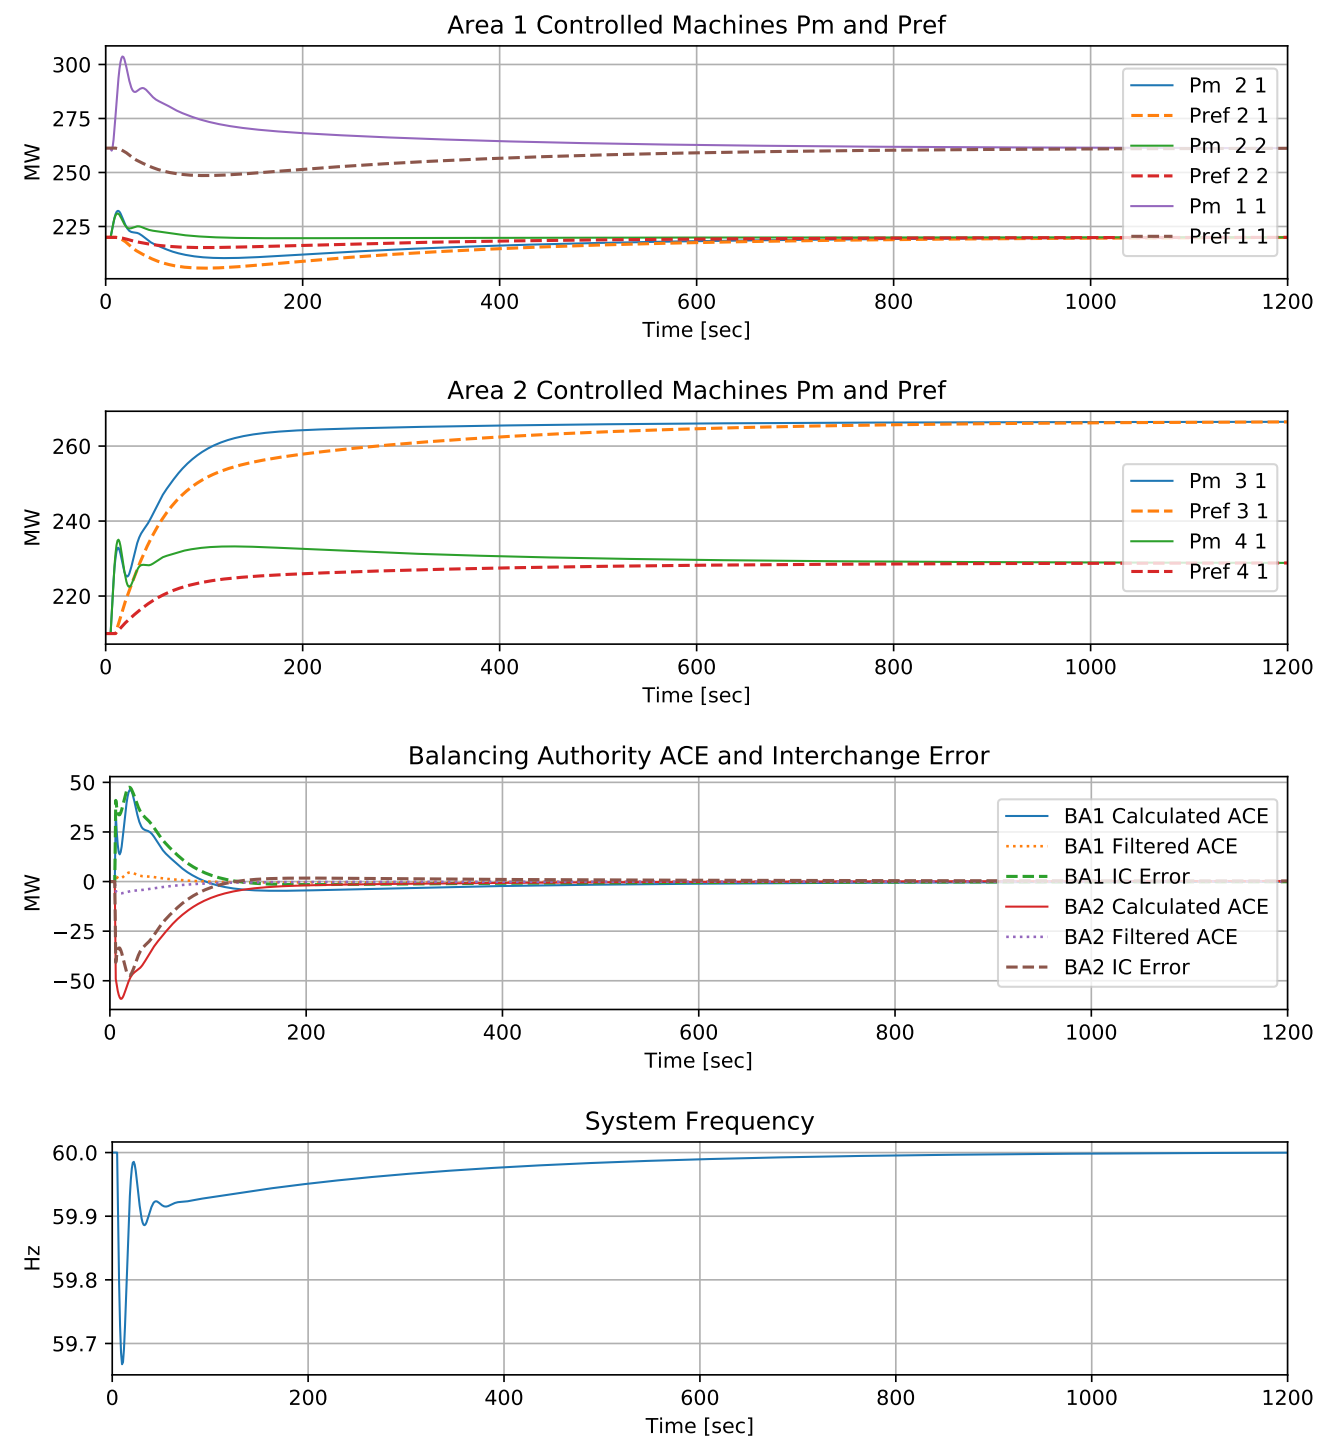

Figure 2: Relevant Balancing Authority Simulation Data Using Ramps and PI Filtering.
**Ramp PI ACE Results:** Changing the ACE distribution to ramps and using a PI controller to filter ACE with a proportional gain of 0.1 and integral gain of 10E-6 produces the responses shown in Figure 2. The filtered ACE is distributed to controlled machines according to their participation factor. Note that the 20 minute simulation uses a 1 second time step.